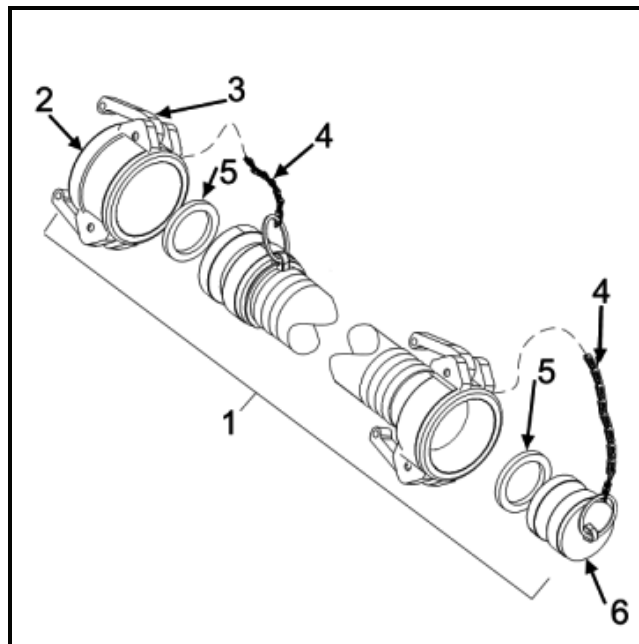

Figure 1. Drain Hose Assembly.
1. Pull outward on two cam-lever arms (Figure 1, Item 3). Remove dust cap (Figure 1, Item 2) and dust plug (Figure 1, Item 6) from hose assembly (Figure 1, Item 1).
3. Remove two chain assemblies (Figure 1, Item 4) and remove dust cap (Figure 1, Item 2) and dust plug (Figure 1, Item 6) from hose assembly (Figure 1, Item 1).
4. Remove two gaskets (Figure 1, Item 5) from dust plug (Figure 1, Item 2), and dust cap (Figure 1, Item 6). Discard gaskets.